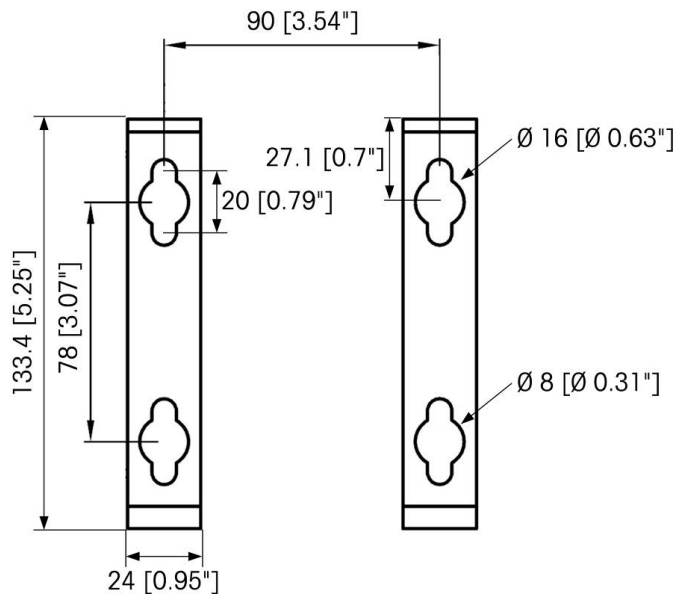

Figure A-14: Template for Harsh Terminal Mounting
2. Mark the position of the bracket mounting holes on the surface to which the terminal will be mounted per the dimensions shown in Figure A-14, or by holding the terminal up to the surface and marking through the bracket holes.